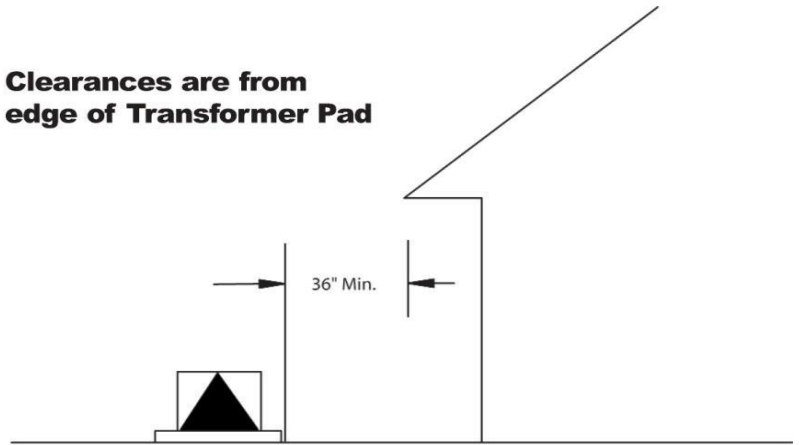

FIGURE 3
1. Determine pad location and orientation (see pages 4 to 6). Pad location must be in accordance with ECE clearance requirements (see Figures 3 to 11).
Pad-mount oil-insulated transformers may be located a minimum distance of 36' from the roof overhang of a non-combustible walled building if all the following clearances are maintained from doors, windows, and other building openings. If a combustible first floor overhang exists, a 10' distance from the edge of the transformer to the edge of the overhang or its associated roof overhang (combination of vertical and horizontal distance) shall be required in addition to the other clearances as shown in Fig. 3.